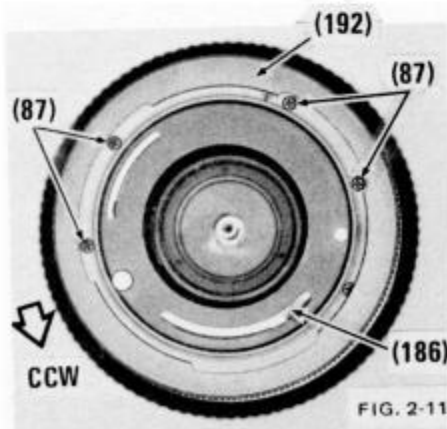

FIG. 2-11
- b) Set auto/manual ring (186) to the manual aperture position (fully counter-clockwise position and detented). Fig. 2-11.
- c) Rotate locking ring (192) fully counter-clockwise; remove four mount screws (87). Fig. 2-11.